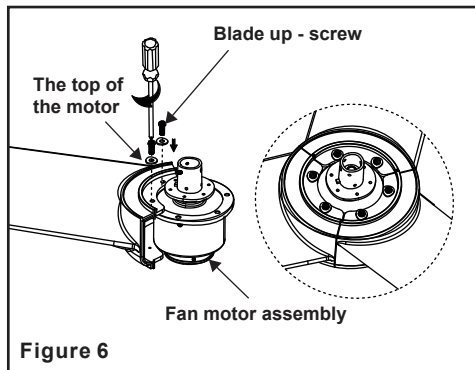

Figure 6
Step 1. Attach the blades to the fan motor assembly using blade up-screws as shown in Figure 6. Start a screw into the blade, do not tighten. Repeat for the remaining screw and washer. Repeat these steps for the remaining blades.